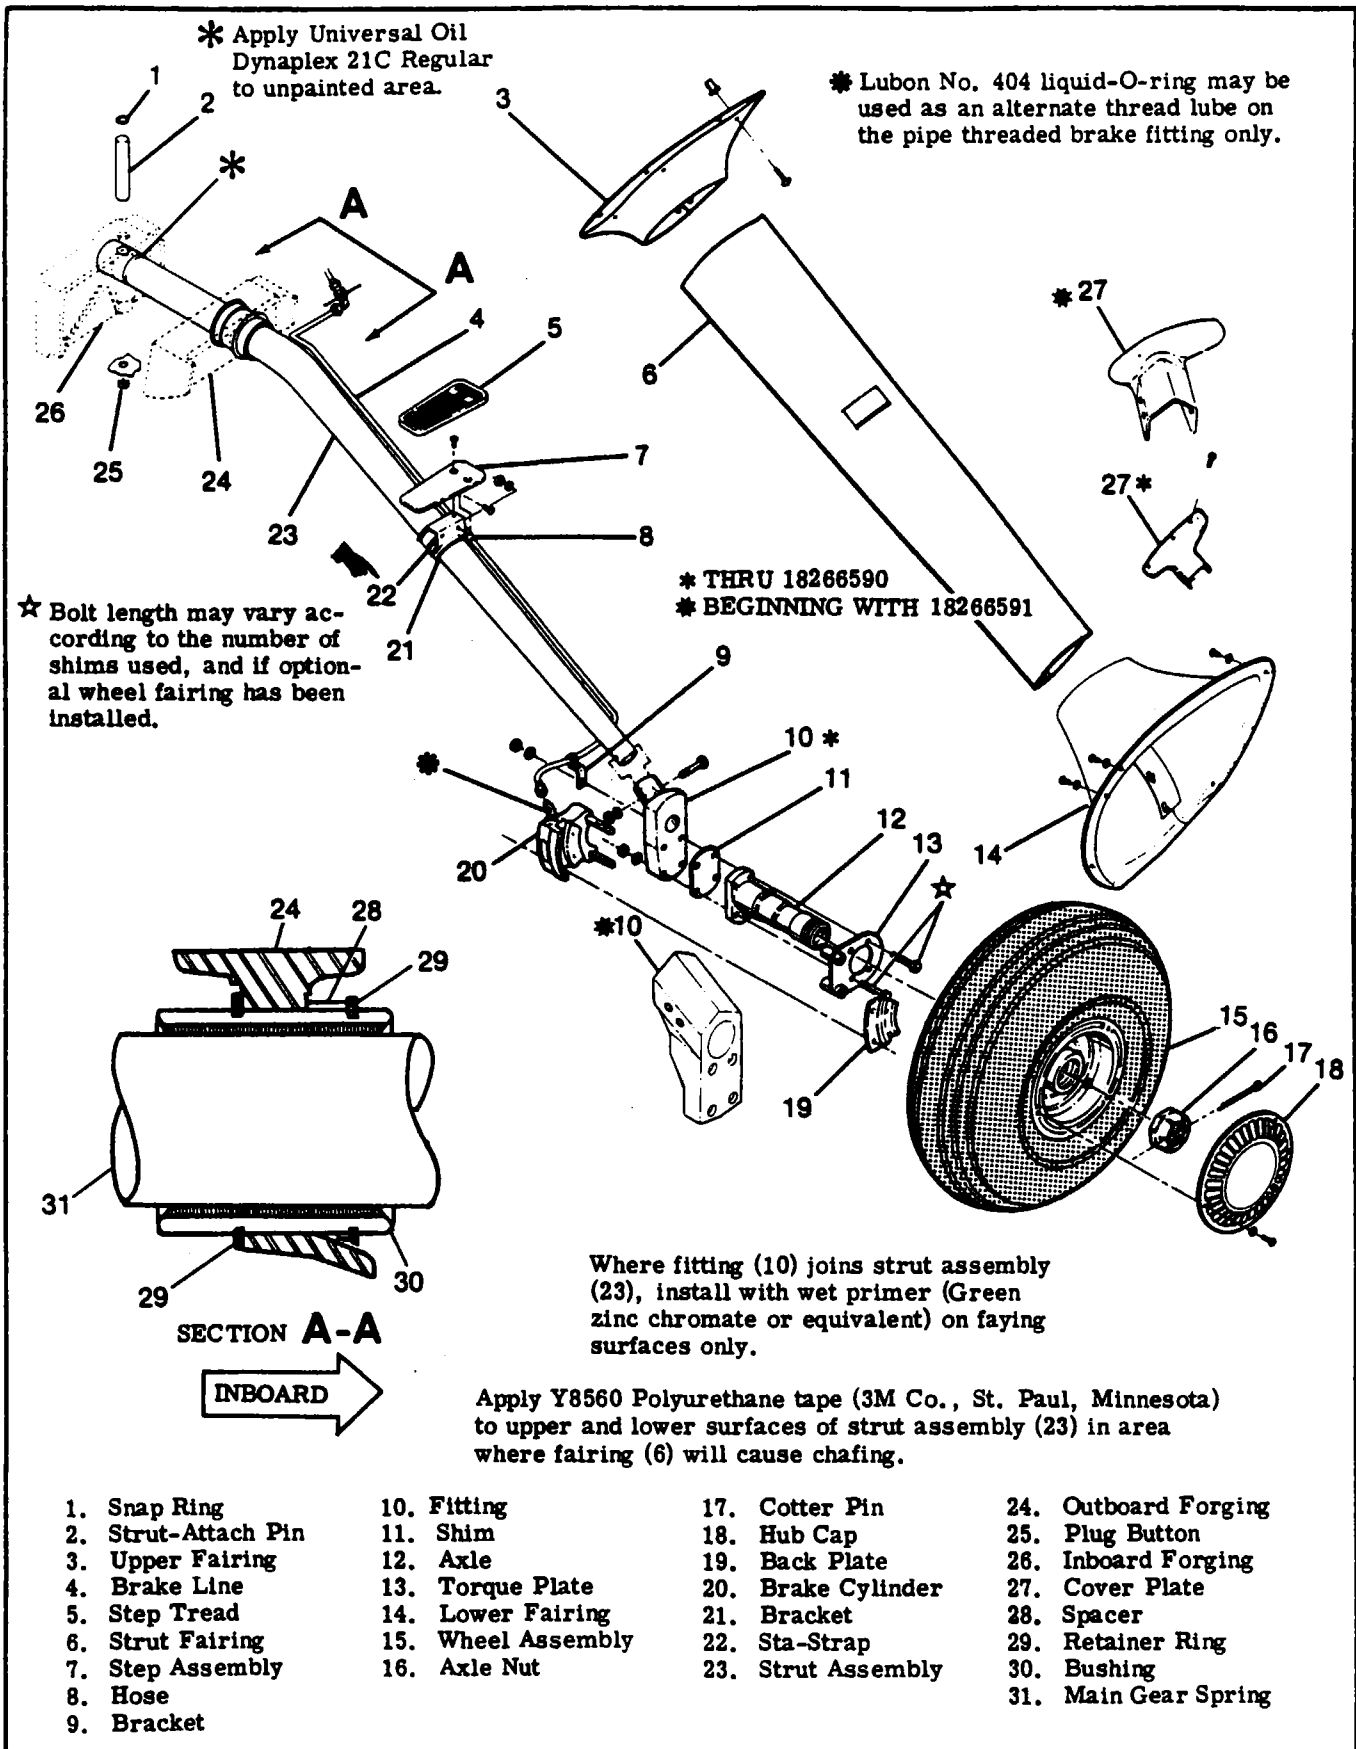

Figure 5-1. Main Landing Gear
5-6. MAIN GEAR STRUT REMOVAL. (See figure 5-1.)
5-7. MAIN GEAR STRUT INSTALLATION. (See figure 5-1.)
5-9. LANDING GEAR FAIRINGS. (See figure 5-1.)
5-11. REMOVAL AND INSTALLATION OF MAIN GEAR FAIRINGS. (See figure 5-1.)
- a. Remove wheel brake fairing (item 14, figure 5-1), by removing screws around perimeter of fairing, then by removing screws from nutplates holding two halves of brake fairing together.
- b. Remove screws attaching stiffener (5) and inboard side of wheel speed fairing (2) to mounting plate (6), which is attached to the axle.
- c. Install screws attaching stiffener (5) and inboard side of wheel speed fairing (2) to mounting plate (6), which is attached to the axle.
- d. Install brake fairing (item 14, figure 5-1), by in-